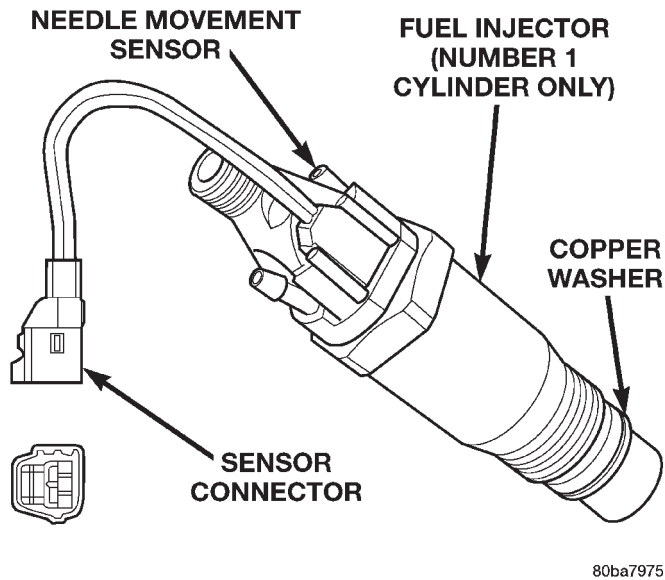
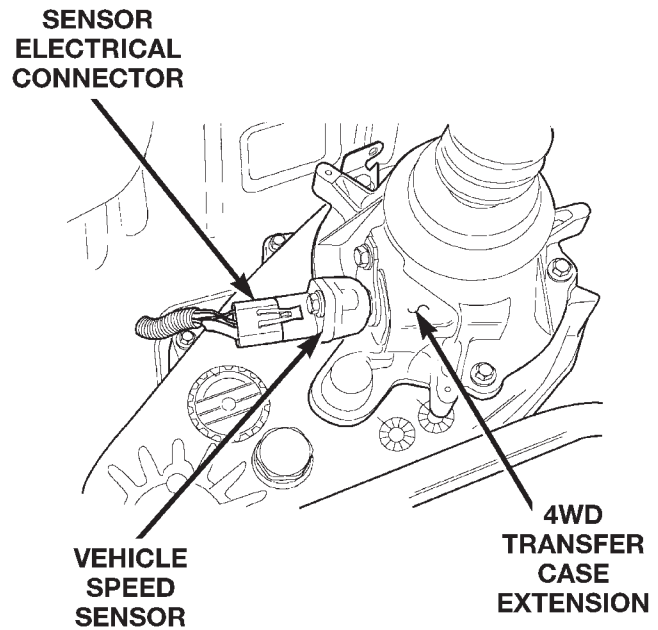
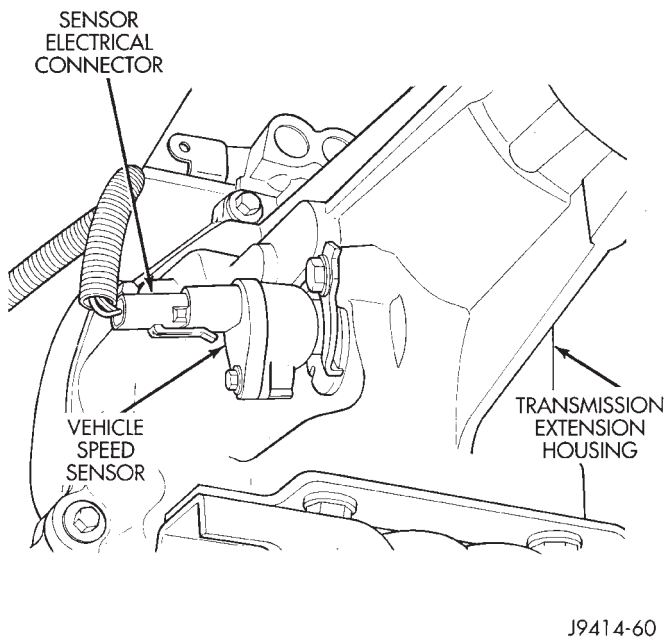
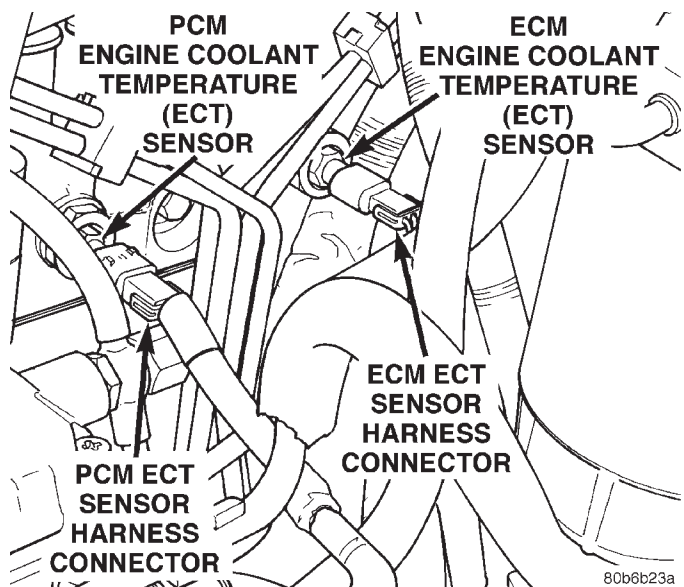

Fig. 14 Fuel Injector Sensor
Fig. 16 Vehicle Speed Sensor—4 Wheel Drive
Fig. 15 Vehicle Speed Sensor—2 Wheel Drive
Fig. 17 Engine Coolant Temperature Sensor Location
(10) Verify that the fuel heater electrical connector is firmly attached to the filter bowl at the bottom of the fuel filter/water separator. Inspect the connector for corrosion or damaged wires.
(11) Verify that the electrical pigtail connector (sensor connector) (Fig. 14) for the fuel injector sensor is firmly connected to the engine wiring harness. Inspect the connector for corrosion or damaged wires. This sensor is used on the #1 cylinder injector only.
(12) Inspect for exhaust system restrictions such as pinched exhaust pipes or a collapsed or plugged muffler.
(13) Verify that the harness connector is firmly connected to the vehicle speed sensor (Fig. 15) or (Fig. 16).
(14) Verify turbocharger wastegate operation. Refer to Group 11, Exhaust System and Intake Manifold Group for information.
(15) Verify that the harness connector is firmly connected to the engine coolant temperature sensor. The sensor is located on the side of cylinder head near the rear of fuel injection pump (Fig. 17).
(16) Check for air in the fuel system. Refer to the Air Bleed Procedure.
(17) Inspect all fuel supply and return lines for signs of leakage.